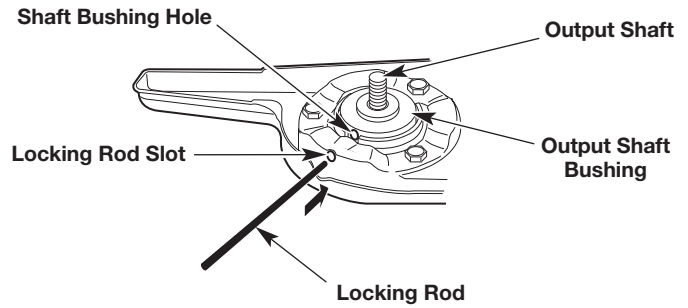

Fig. 18
1. Align the shaft bushing hole with the locking rod slot (Fig. 18). Insert the locking rod into the locking rod slot and shaft bushing hole (Fig. 18).
2. Align the shaft bushing hole with the locking rod slot (Fig. 18). Insert the locking rod into the locking rod slot and shaft bushing hole (Fig. 18).